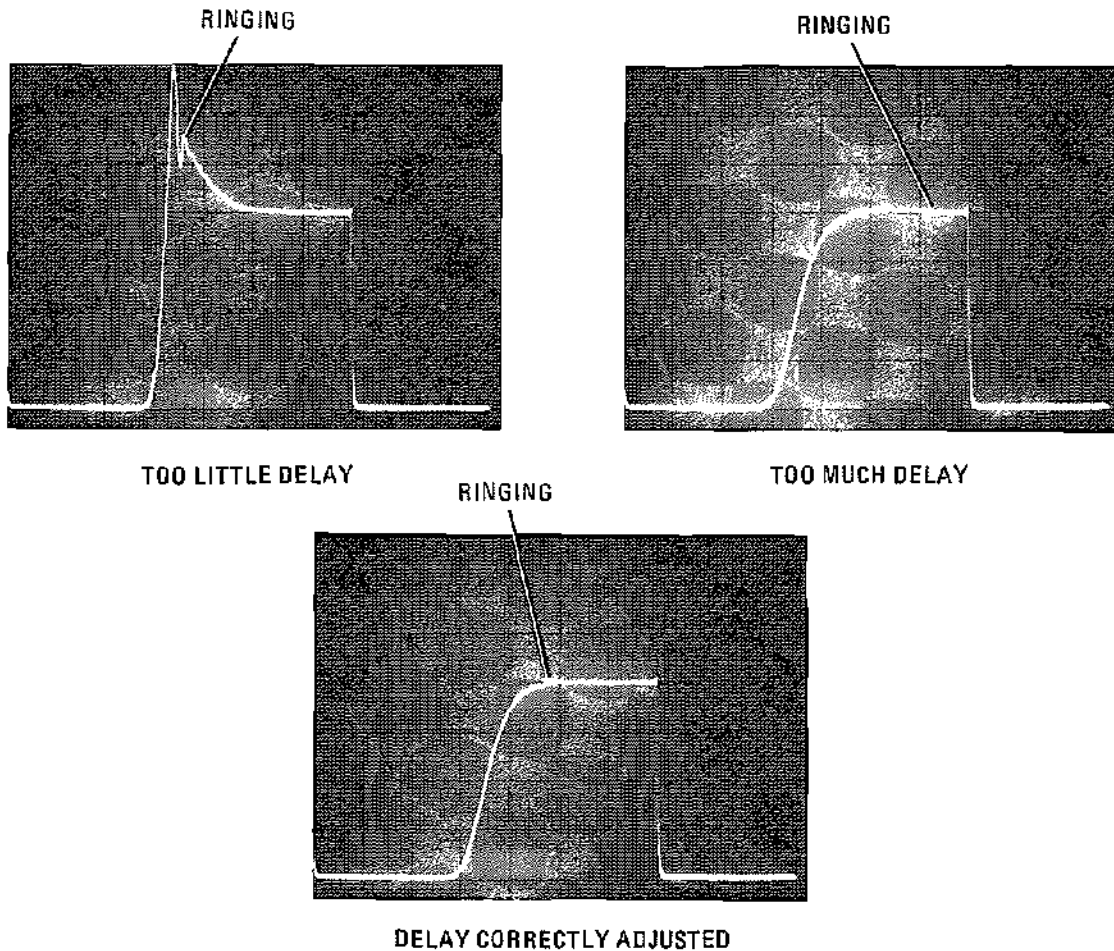

Figure 5-6. Delay and Symmetry Adjustment Waveforms
- b. Adjust DLY (A3R62) and SYM (A3R83) for oscilloscope display similar to the correctly adjusted delay waveform of Figure 5-6.
- d. Adjust SYM (A3R83) for approximately equal ON and OFF times (Figure 5-6) of RF signal as indicated on oscilloscope.
- e. Adjust DLY (A3R62) for best response. See Figure 5-6 for typical waveforms.
- c. Adjust DLY (A3R62) for a display similar to the correctly adjusted delay waveform of Figure 5-6.
- e. Adjust DLY (A3R62) for best response. (See Figure 5-6.)